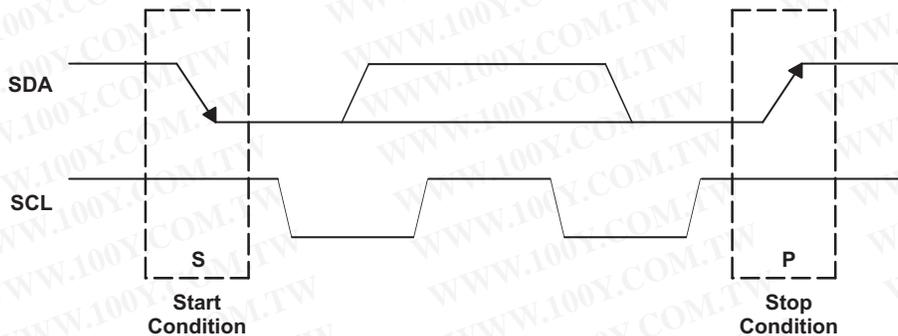

Figure 5. I²C Start and Stop Conditions
Figure 5 shows the basic I²C start and stop access cycles.
- The *master* initiates data transfer by generating a *start condition*. The *start condition* exists when a high-to-low transition occurs on the SDA line while SCL is high, as shown in Figure 5. All I²C-compatible devices should recognize a *start condition*.